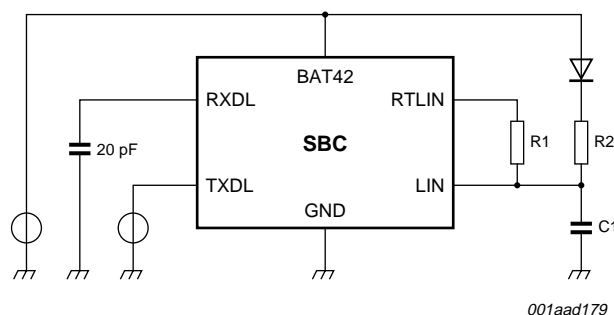
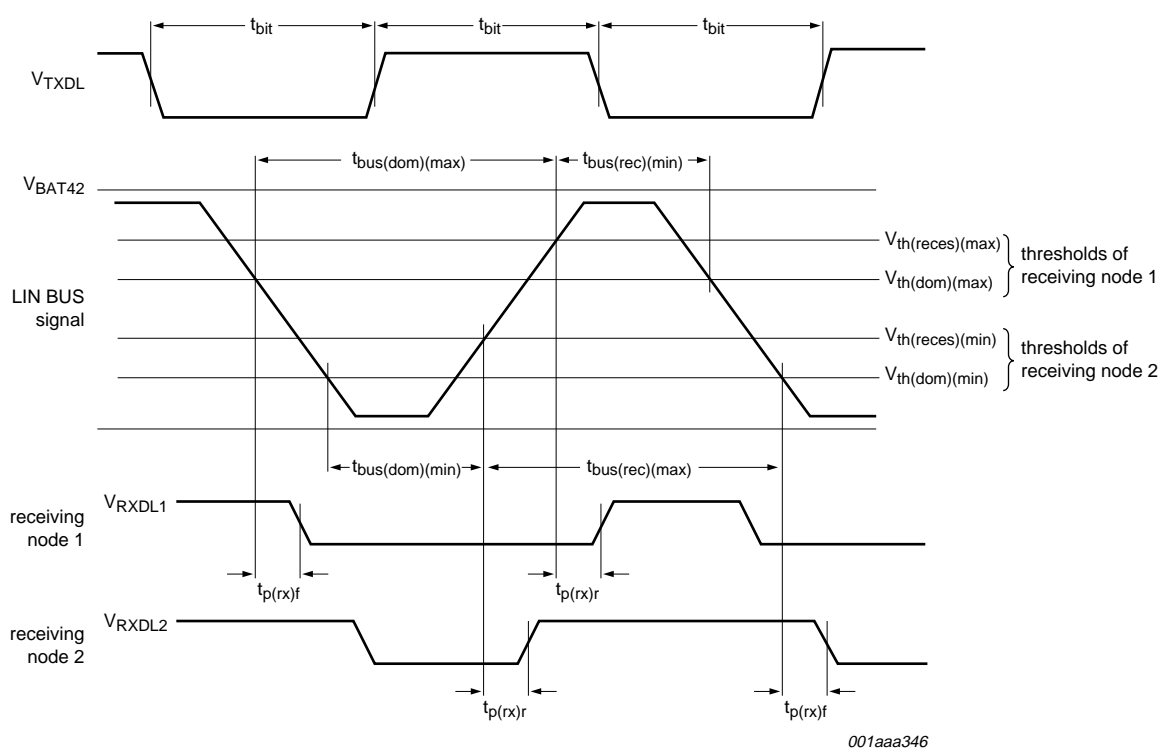

Fig 25. Timing test circuit for LIN transceiver
Fig 26. Timing diagram LIN transceiver
- [3] t_{bit} = selected bit time, depends on LSC bit; 50 µs or 96 µs (20 kbit/s or 10.4 kbit/s respectively); bus load conditions (R₁/R₂/C₁): 1 kΩ/1 kΩ/10 nF; 1 kΩ/2 kΩ/6.8 nF; 1 kΩ/open/1 nF; see Figure 25 and Figure 26.